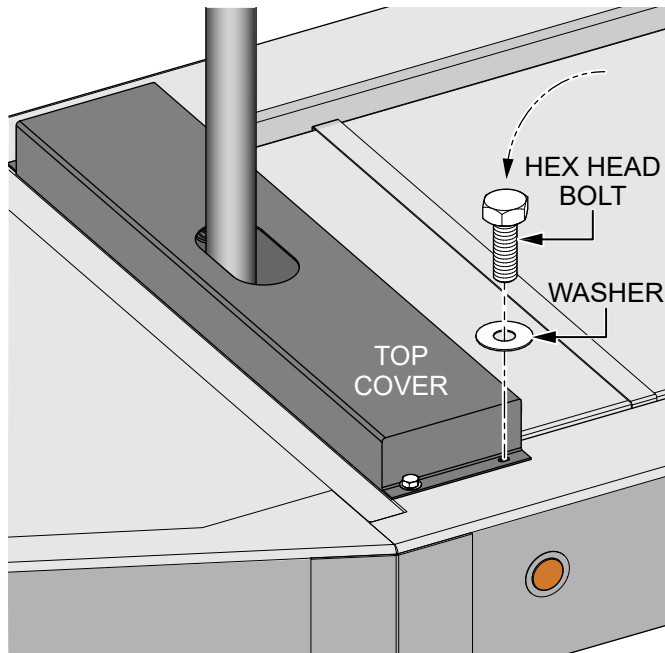

Figure 11. Reinstall Top Cover
14. Reinstall the **top cover** (Figure 11) and secure it to the fuel tank assembly using the **four hex head bolts** and **four washers** that were removed during step #1.